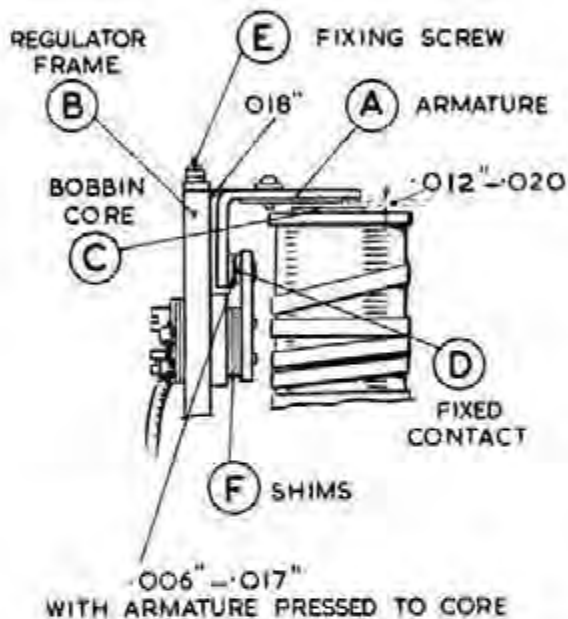

Fig. N.11.
- (i) Slacken the two armature fixing screws "E" (Fig. N.11). Insert a $\cdot 018$ in. ($\cdot 46$ mm.) feeler gauge between the back of the armature "A" and the regulator frame.
mm.). If the gap is outside these limits correct by adding or removing shims "F" (Fig. N.11) at the back of the fixed contact "D."